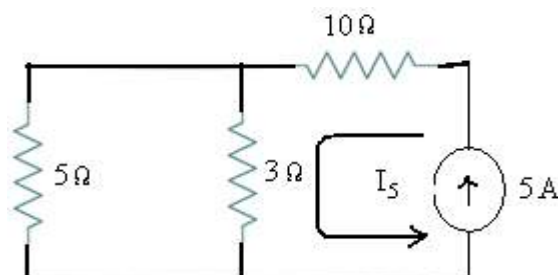

Fig.2
**Solution:** To find out the Norton's equivalent ckt we have to find out  $I_N = I_{sc}$ ,  $R_N = V_{oc} / I_{sc}$ . Short the  $1.5\Omega$  load resistor as shown in (Fig 2), and Calculate / measure the Short Circuit Current. This is the Norton Current ( $I_N$ ).
Similarly the current  $I_5$  in the resistance of  $3\ \Omega$  due to the current source of  $5A$  alone with voltage source of  $20V$  short circuited [ as shown in the figure.2 below ] is given by :
- Actually, the RMS value of a sine wave is the measurement of heating effect of sine wave. For example, when a resistor is connected to across an AC voltage source, it produces specific amount of heat (Fig 2 – a). When the same resistor is connected across the DC voltage source as shown in (fig 2 – b). By adjusting the value of DC voltage to get the same amount of heat generated before in AC voltage source in fig a. It means the RMS value of a sine wave is equal to the DC Voltage source producing the same amount of heat generated by AC Voltage source.